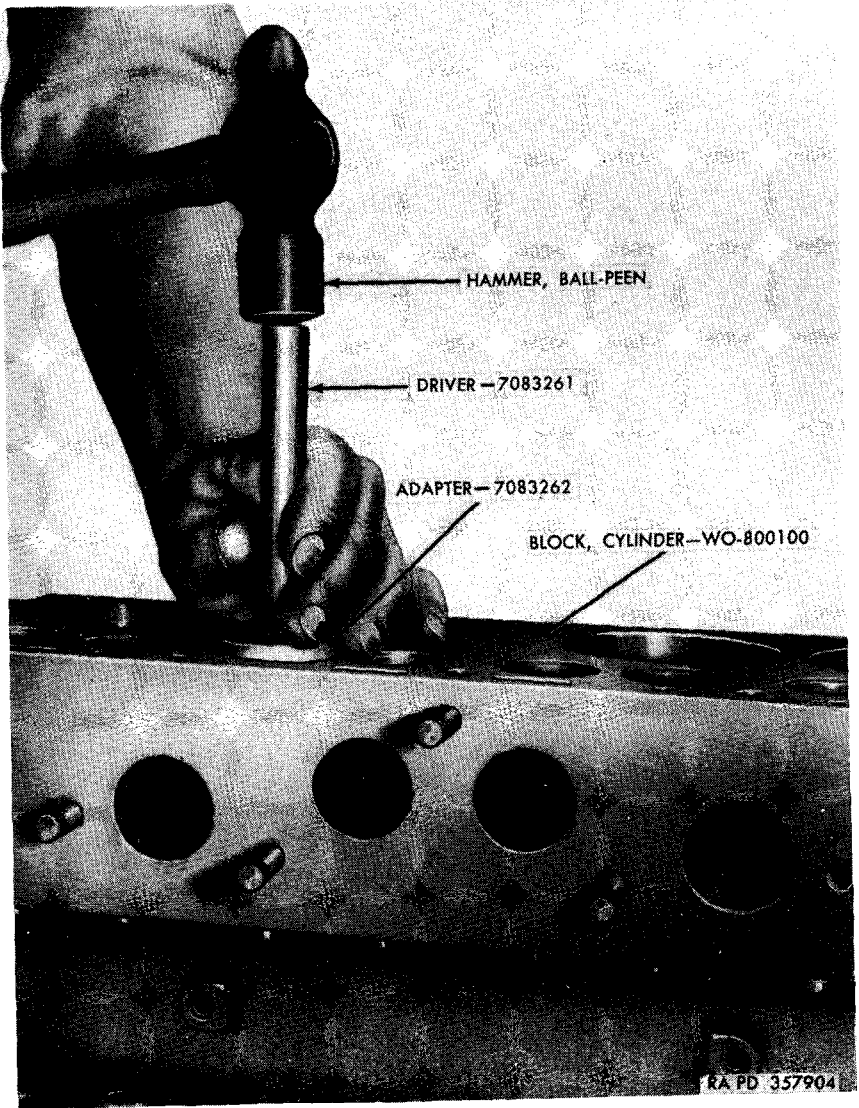

Figure 46. Installing valve guides using adapter 7083262 and driver 7083261.
f. **REPLACE VALVE GUIDES.** Remove the guides using valve-guide remover and replacer 41-R-2379-25. When installing valve guides, drive all intake and exhaust valve guides into the block using valve-guide remover and replacer 4-1-R-2379-25 (fig. 46), leaving a distance of 1 inch from the top of the guide to the top of the cylinder block for exhaust-valve guides, and a distance of $1\frac{5}{16}$ inches for the intake-valve guides.